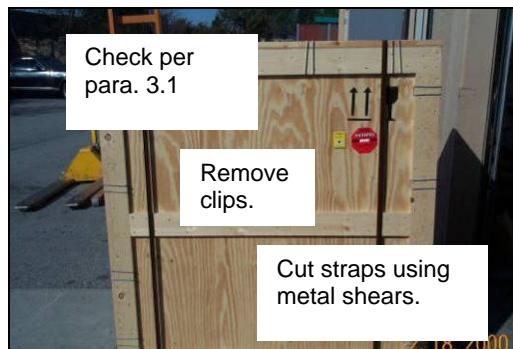

Figure 3-1. Warning label, straps and clips on front of crated EQUIPMENT.
The color of the liquid capsule on the Shock Warning Label affixed to the side of the EQUIPMENT crate (shown in Figure 3-1) should be clear; if it's **red**, the shipment should be inspected for physical damage. If damage is found, reject the shipment per whatever process is used for unacceptable shipments.
- 1) If the shipment is accepted, cut and remove any straps securing the crate to the pallet (shown in Figure 3-1).
- 3) If clips are used on the crate, use one hand loosely cupped over each clip to prevent damage to the eyes, pop off the clips around the edges of the front of the crate (shown in Figure 3-1). Use either the claw side of a hammer or a screwdriver to loosen same.